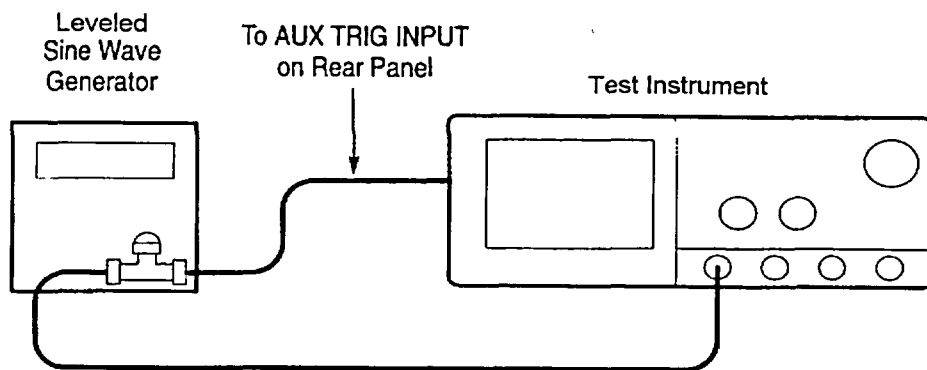

Figure 7. Equipment setup.
- (11) Press front-panel **TRIGGER MENU** key.
- (12) Press main-menu **Mode & Holdoff** key.
- (13) Press side-menu **Normal** key.
- (14) Press front-panel **VERTICAL MENU** key.
- (15) Press main-menu **Coupling** key.
- (16) Press side-menu Ω key to select **50 Ω** setting.
- (17) Press front-panel **Shift** key.
- (18) Press front-panel **ACQUIRE MENU** key.
- (19) Press main-menu **Mode** key.
- (20) Press side-menu **Average 16** key.
- (21) Connect equipment as shown in figure 7 below.